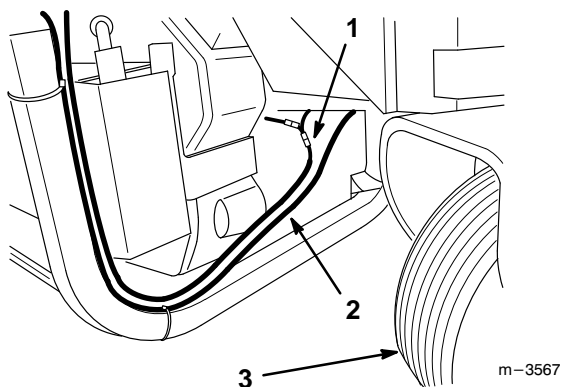

Figure 15
10. Route remainder of new wire harness around back of engine to the left vertical frame member, following main wire harness. Attach wire ties to keep harness out of castor wheel (Fig. 15).